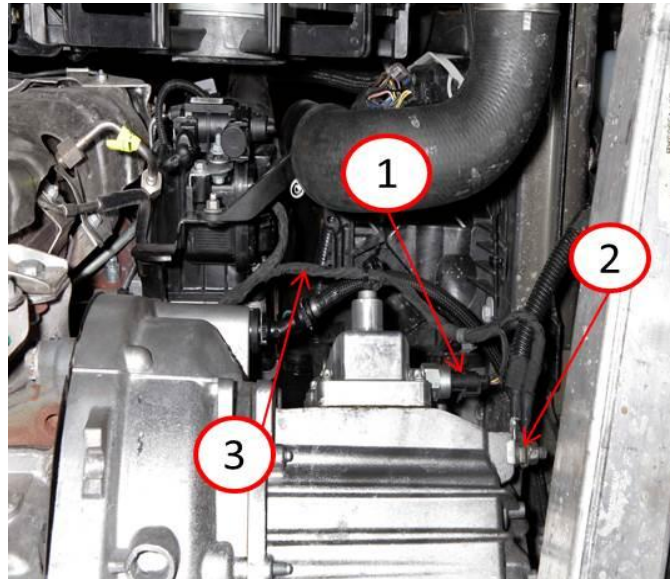

Fig. 9 Ground At Transmission
7. Remove the ground nut from transmission to the wiring harness (Fig. 9).
8. Disconnect the pressure sensor electrical connector and the 3 wire retainers (Fig. 9).